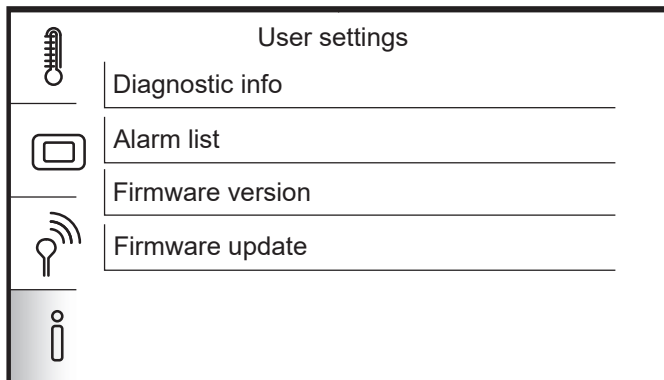

Figure 11-5: Controller information options.
5. Tap the information icon at the bottom. Refer to Figure 11-5.